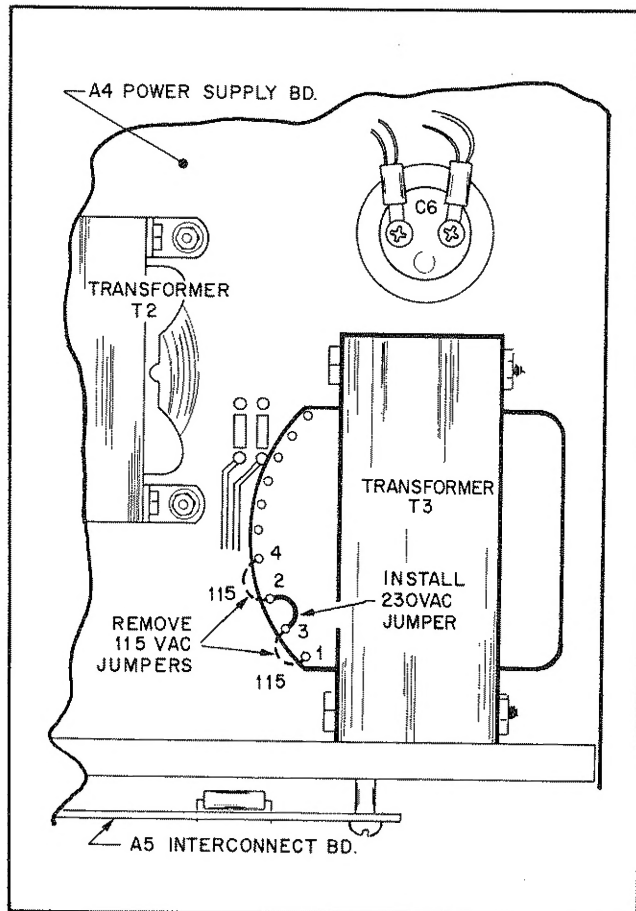

Figure 2-2. Primary Connection for 230Vac Operation
2-20 CONNECTIONS FOR 230 VOLT OPERATION (Figure 2-2)
b. Looking from the rear of unit, locate the 115Vac jumpers between terminals 1,3, and 2,4 of transformer T3 (see Figure 2-2).
c. Remove both 115Vac jumpers and solder the 230Vac jumper between terminals 2 and 3 of transformer T3 as shown in Figure 2-2.